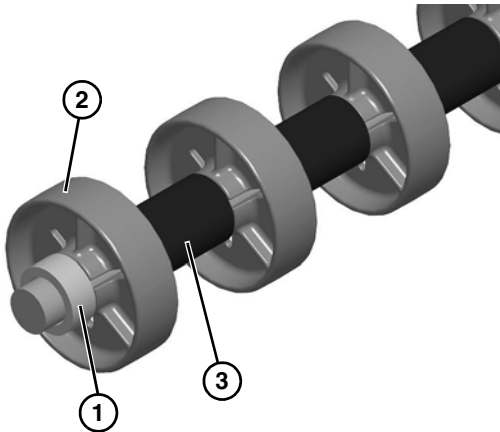

Figure 61
- Remove spacer (**Figure 61, item 1**), rollers (**Figure 61, item 2**) and tube spacers (**Figure 61, item 3**) from shaft.